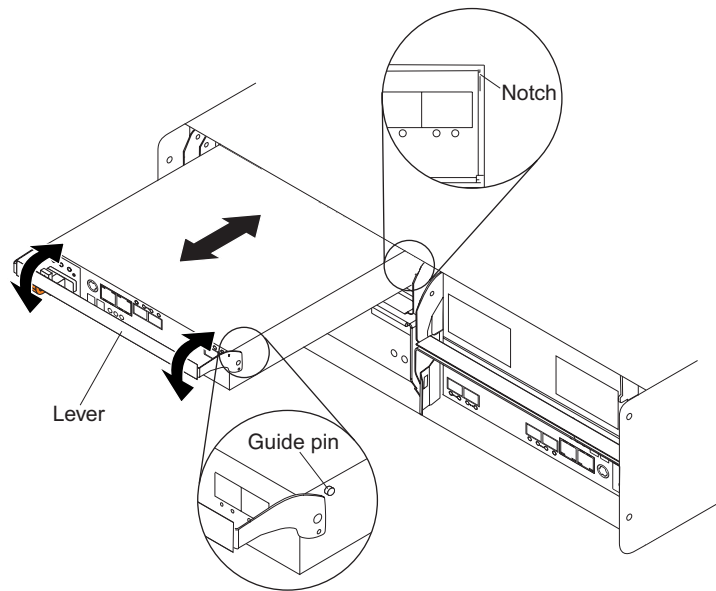

Figure 20. Removing and replacing a controller
1. Slide one controller into the empty slot in the storage subsystem. Be sure that the lever is pulled straight out as you slide the controller in, as shown in Figure 20.